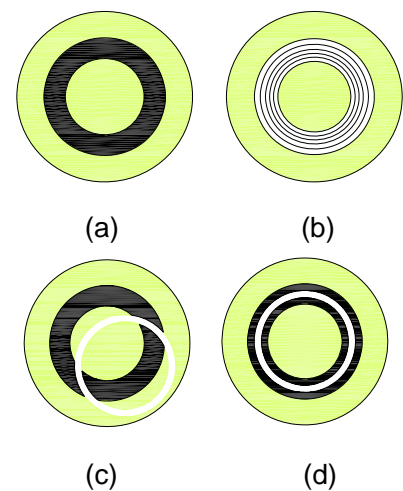

Figure 12
- b) Observe from the telescope. The bright ring and dark ring should be coincided with each other as shown in Figure 12 (d).
- d) If the bright ring is still obscure as in Figure 12 (b), adjust the condenser focus knob (23).
- e) If the two ring images are not coincided as shown in Figure 12 (c), hold the ring plate from the bottom of the annular ring disk (8) and adjust its position until two ring images are coincided.